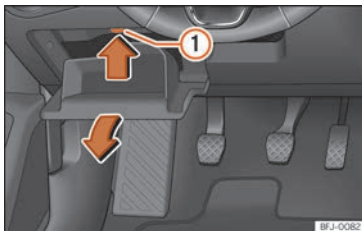

Fig. 52 On the dashboard on the driver's side (left-hand drive): fuse box cover.
- Open the storage compartment on the driver side »» Fig. 52.
- Press the locking lid »» Fig. 52 ① upwards, in the direction of the arrow, and at the same time open the storage compartment even more and remove it until the fuse box is accessible.